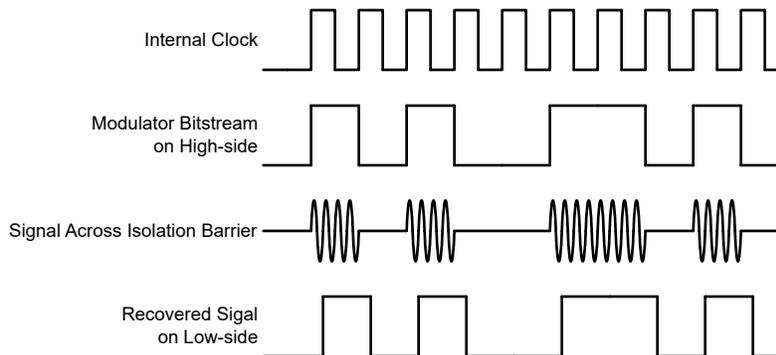

Figure 7-3. OOK-Based Modulation Scheme
As shown in Figure 7-3, the AMC0x36-Q1 uses an on-off keying (OOK) modulation scheme to transmit the modulator output bitstream across the SiO₂-based isolation barrier. The transmit driver (TX) is illustrated in the Functional Block Diagram. TX transmits an internally generated, high-frequency carrier across the isolation barrier to represent a digital one. However, TX does not send a signal to represent a digital zero. The nominal frequency of the carrier used inside the AMC0x36-Q1 is 480MHz.